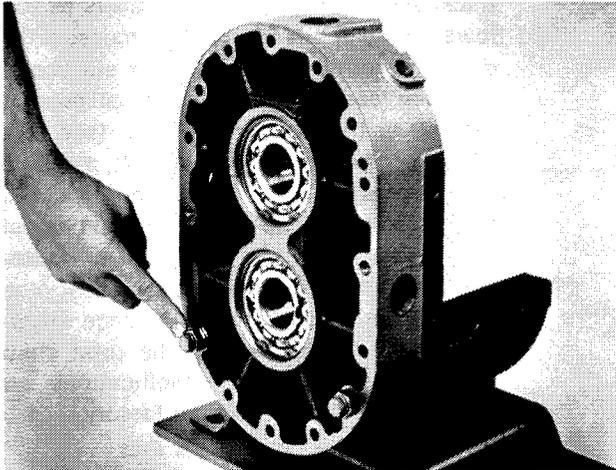

FIGURE 19
- f. Install the drive end plate to the lower housing half with two cap screws (18) using a 1/2-13 nut spacer under the head of each cap screw (see Fig. 19).